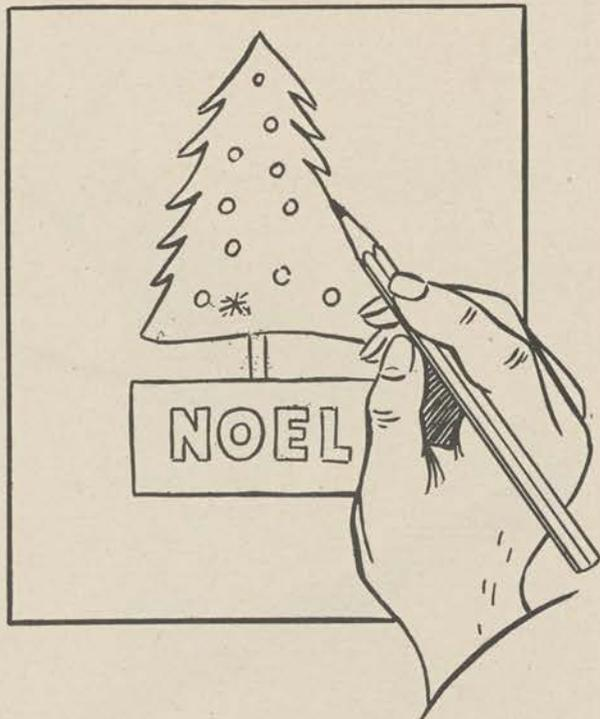

Figure 180.
a. One of the simplest means of applying a design on the screen is the paper mask or stencil method. The picture or lettering to be reproduced must be drawn full size (fig. 180). Next a plain sheet of